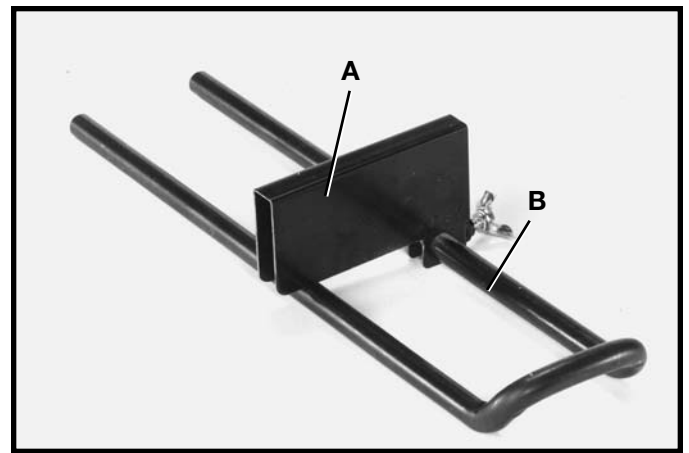

Fig. 8
1. Decide on which side of the saw table you want the stock stop (A) Fig. 8, and attach the stock stop (A) on the table extension (B).